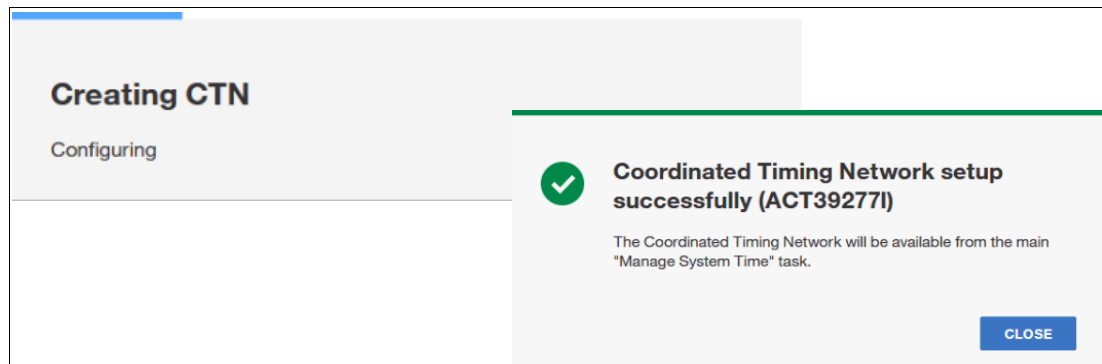

Figure 8-42 Creating CTN window / ACT39277I Success window
11. The Creating CTN progress is shown until the operation completes successfully, followed by the ACT39277I success window (see Figure 8-42). Click **Close** to return to the initial window.